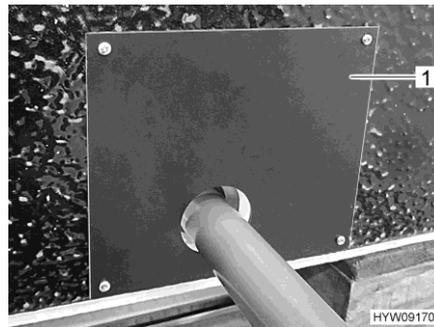

Fig. 158 Cover (waste water tank tray)
- Remove the cover (Fig. 158,1) on the waste water tank tray.
- Install the cover (Fig. 158,1).